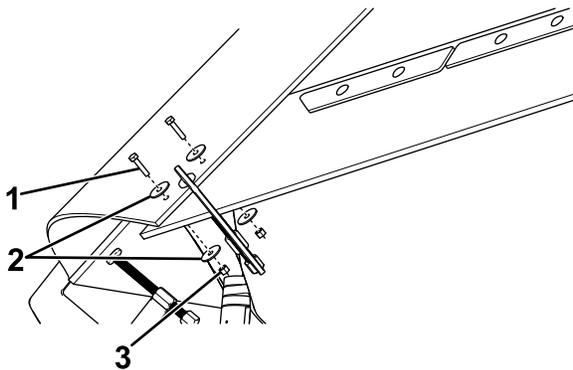

Figure 7
8. Drill a 9.5 mm (3/8 inch) hole through the belting, and secure the 2 sections together using a bolt (1/4 inch), 2 fender washers, and a nylon locknut (1/4 inch) as shown in Figure 7.
10. Secure the 2 sections together using a bolt (1/4 inch), 2 fender washers, and a nylon locknut (1/4 inch) as shown in Figure 7.